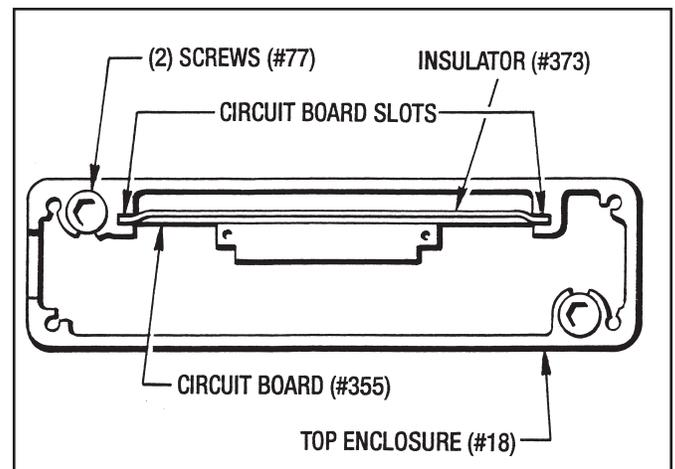

Figure 9.19 - Circuit Board Slots
8. While holding the Circuit Board upright slide the Upper Enclosure (#18) down over the Circuit Board onto the Disc Housing. Make sure the edges of the Circuit Board are in the (2) side retaining slots located in the Upper Enclosure. (See Figure 9.19)
- Check the Gasket (#19) to see if it is still in place. Insert the (2) Screws (#77) and tighten down.
- Slide the Insulator (#373) down and into the Upper Enclosure (#18) behind the Circuit Board (#355) placing the upper tabs into the circuit board slots. (See Figure 9.19)